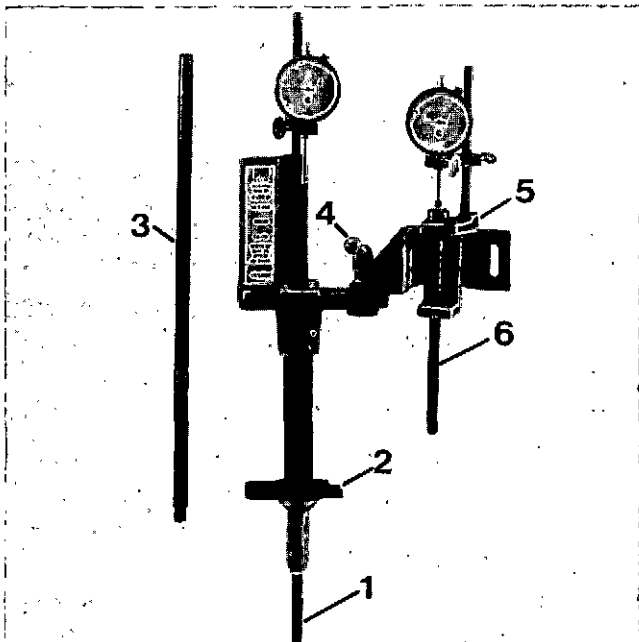

Fig. 14-31. The Part No. 3375522 Injection Timing Tool.
1. Install the support bracket for the push rod adapter (5, Fig. 14-31) into the slot nearest the clamp handle (4).
2. Install the piston plunger rod (1, Fig. 14-31) into the injector sleeve of the No. 1 cylinder. To fasten the timing tool to the cylinder head, install the adapter screws through the mounting foot (2) and into the holes for the injector hold-down plate. Use the tightening rod (3) to tighten the adapter screws.
3. Loosen the clamp handle (4, Fig. 14-31) and align the push rod adapter (6) with the injector